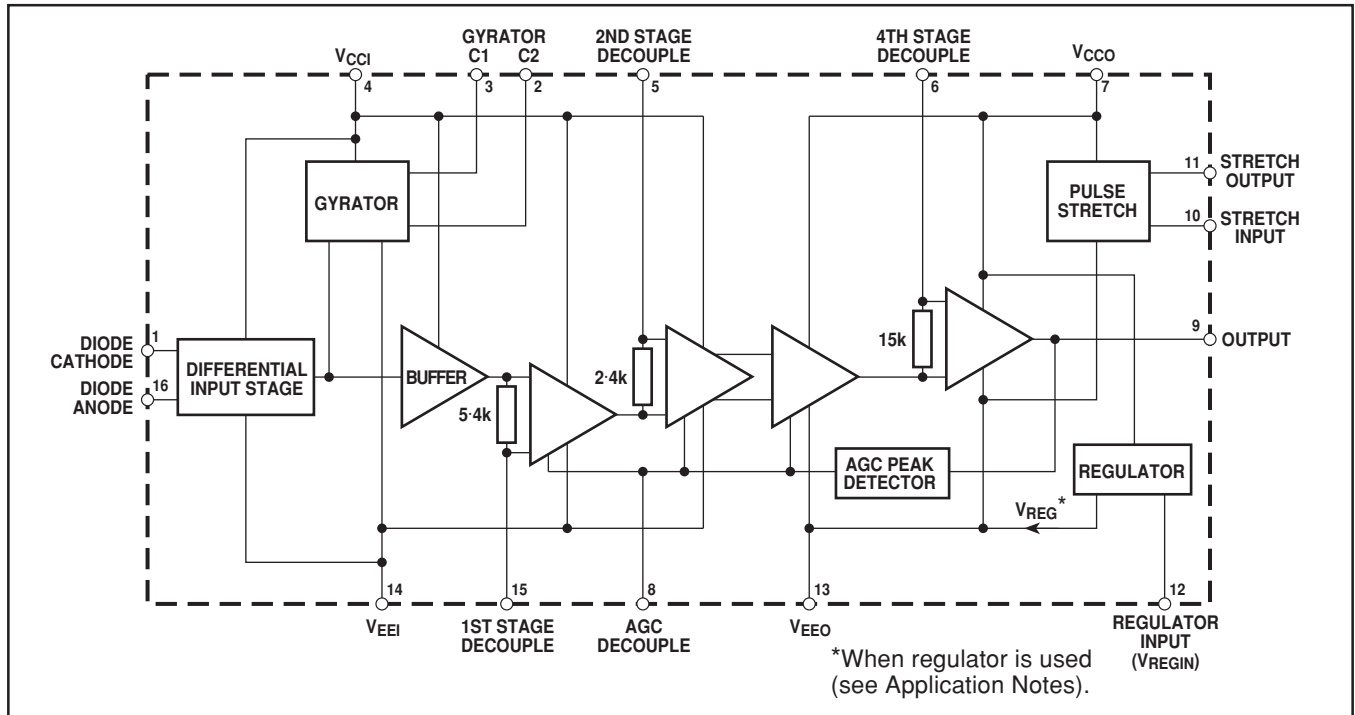

Fig. 2 SL486 block diagram
**First Stage Decouple (Pin 15)** The capacitor on pin 15 decouples the signal from the non-inverting input of the first difference amplifier (see also Fig. 2). The capacitance of 15nF is chosen to produce a 2kHz low frequency roll-off. The capacitor must be connected between pins 15 and 14 (the input ground).